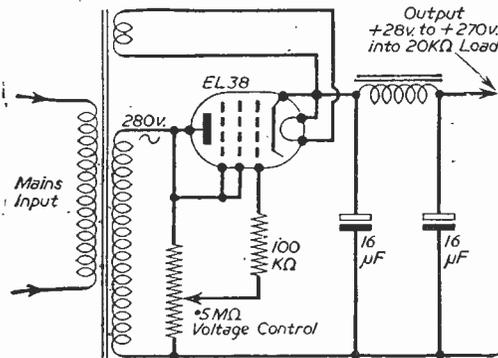

Fig. 3.—This circuit will provide higher voltages and currents.
(1) Disconnect the frame aerial from the chassis and remove chassis from the cabinet.
(2) Tune the generator to 470 kc/s and connect, via 0.1 μ F isolating capacitors, between C1 of the tuning gang and chassis (use a modulated signal for all adjustments) and adjust T9 (Fig. 3), T8 (Fig. 2), T7 (Fig. 2) and T6 (Fig. 3) in that order, for maximum indication on the output meter, and repeat until no further improvement can be obtained. (3) Re-assemble chassis in cabinet and reconnect the frame aerial.
(4) With the generator tuned to 1,500 kc/s, inject signal between the chassis, via an 0.1 μ F capacitor,
(5) With the generator connected as above, tune to 580 kc/s; tune receiver to the 580 kc/s point marked on the scale (M.W.) and adjust T3 (Fig. 3) for maximum indication on the output meter whilst rocking the tuning gang.
(6) Repeat (4) above.
(7) With the generator connected as above, tune to 350 kc/s; tune receiver to the 350 kc/s point marked on the scale (L.W.) and adjust T2 for maximum indication on the output meter whilst rocking tuning gang.
(8) With the generator connected as above, tune to 160 kc/s; tune receiver to the 160 kc/s point marked on the scale (L.W.) and adjust T4 (Fig. 3) for maximum indication on the output meter whilst rocking tuning gang.
(9) Finally, repeat operations (7) and (8) above. The signal generator signal output should be reduced as the circuits approach correct alignment, and the A.F. output should not exceed 0.5 volt.
For higher voltages and currents the circuits of Figs. 3 and 4 are useful. Fig. 3 has been used for supplying a variable G2 voltage for gain control of a television receiver and for work on oscillators. In the circuit of
Fig. 3 fairly high peak voltages +ve and -ve are applied to the anode of the valve and to the potentiometer used for the output voltage control. A top anode valve such as the one shown is, therefore, desirable and a number of suitable alternative ones exist. The potentiometer should be one of good quality or breakdown of the track or between the track and bush may occur.